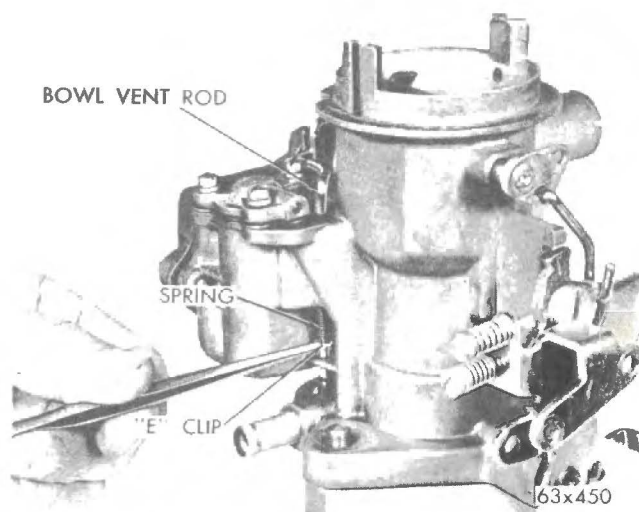

Fig. 11 - Removing or installing bowl vent rod clip.
in Fig. 11. Slide the bowl vent rod, bowl vent valve out of the carburettor. Remove spring.
(15) Slide the bowl vent rod down into position, at the same time thread the spring over rod. Secure with clip (Fig. 11).